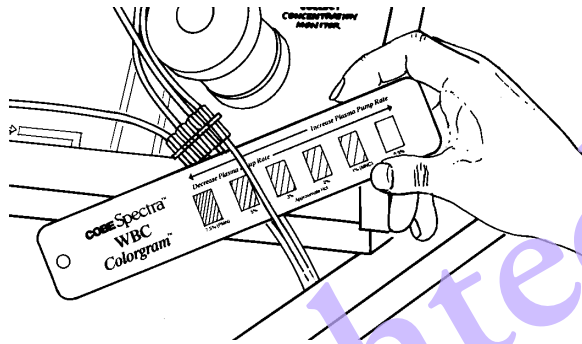

Figure 5-7: Correct position of COBE Spectra WBC Colorgram
- 1 Insert the Colorgram beneath the smallest clear collect line where it exits the centrifuge chamber, just below the four-lumen connector (see Figure 5-7).